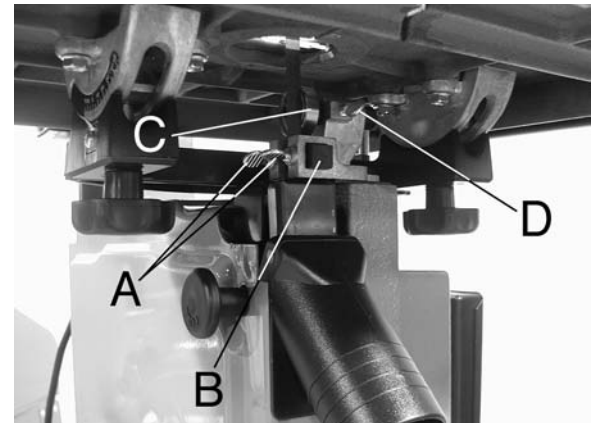

FIGURE 15
1. Loosen thumb screws (A-Fig.15) . Move both guide blocks (B) within .002 inch to the blade. Do not pinch blade. Retighten thumb screws.
2. To adjust the lower blade support bearing (C), loosen the thumb screw (D). Move the support bearing to 1/64 inch behind the back of the blade. Retighten thumb screw.